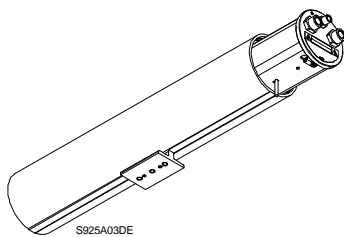

Figure 2: Removing Cradle Assembly
2. Remove the cradle assembly by pushing gently on the metal part of front cap and simultaneously grasping the fittings and pulling the cradle assembly out of the housing. Be sure to keep the edges of the end caps clean and free of scratches. See **Figure 2**.